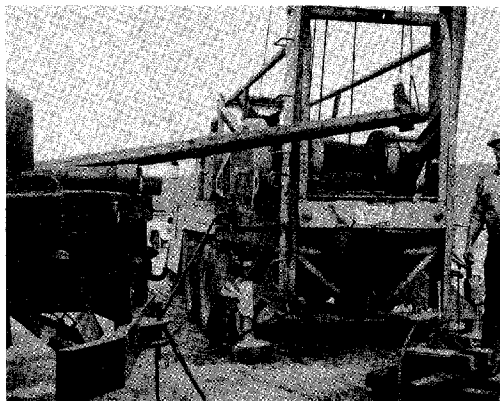

Fig. 5-1. Unloading Pump Column Section Directly From The Truck.
A. For a relatively short pump it may be convenient to install the column, tube, and shaft sections directly from the transporting vehicle. This might be true for example of a pump with a column of less than ten sections. The sections can be prepared for installation without removing them from the truck which delivered them. If the truck can be backed-in close to the hoisting rig, the sections can be hoisted directly from the truck bed. (See Fig. 5-1.)